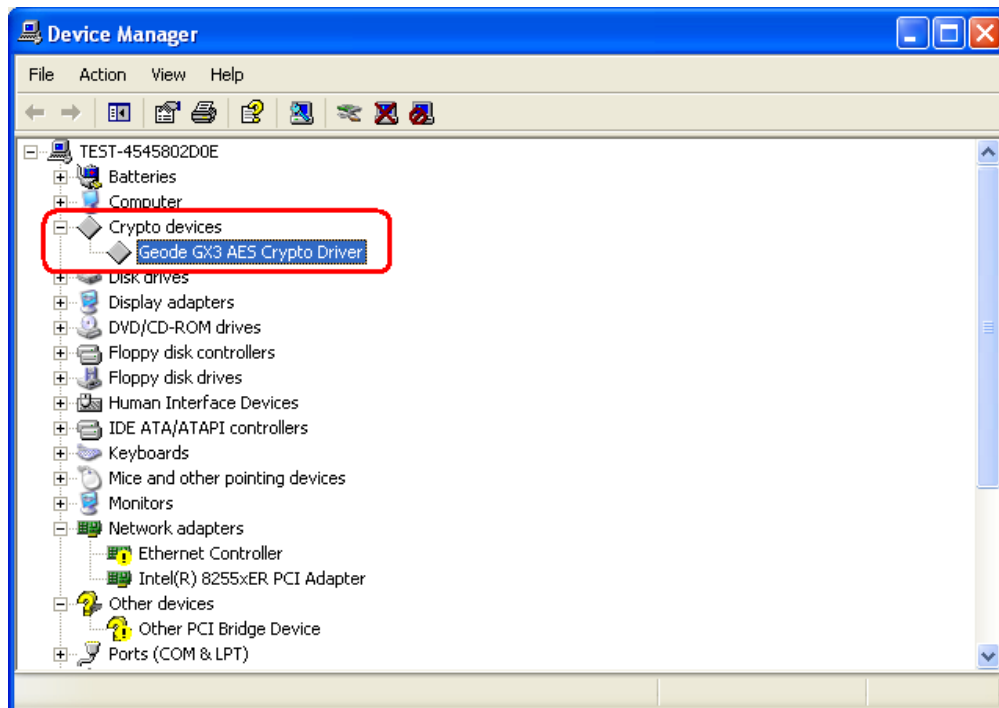

Figure 7-41: Device Manager Update
Step 14: The Device Manager refreshes and the Entertainment Encryption/Decryption Controller Driver can be seen in the Crypto Devices option. See **Figure 7-41**.